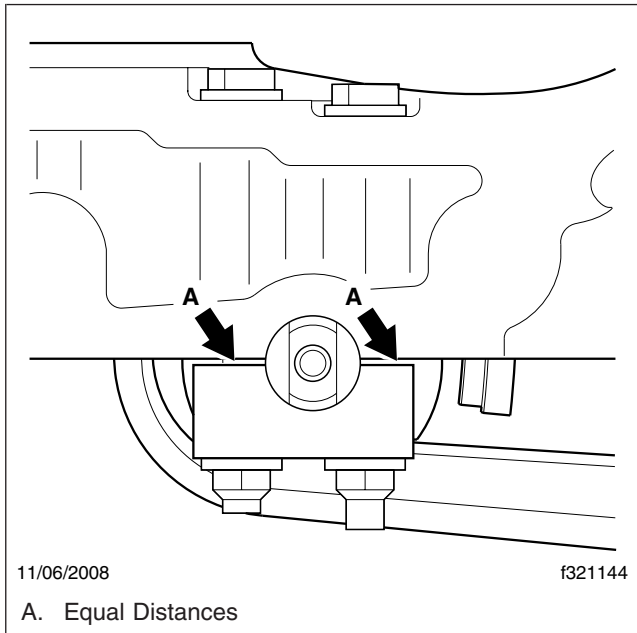

Fig. 2, Spring Drive Bracket and Retainer Installation
- 15.3 Install the retaining bolts down through the spring drive bracket and attach the retainers. Tighten the nuts evenly to maintain equal clearance between the retainers and the spring drive bracket, but do not fully tighten them at this time. They need to be loose enough to adjust. See Fig. 2.